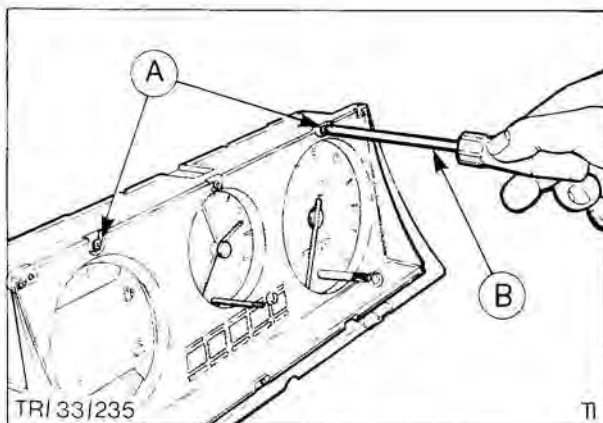

Fig. 59. Removing glass securing screws
4. Remove two cross-head screws, securing glass to upper edge of instrument cluster, Fig. 59.
7. Secure glass to housing body with two cross-head screws along upper edge, Fig. 59, and press on two clips on lower edge.